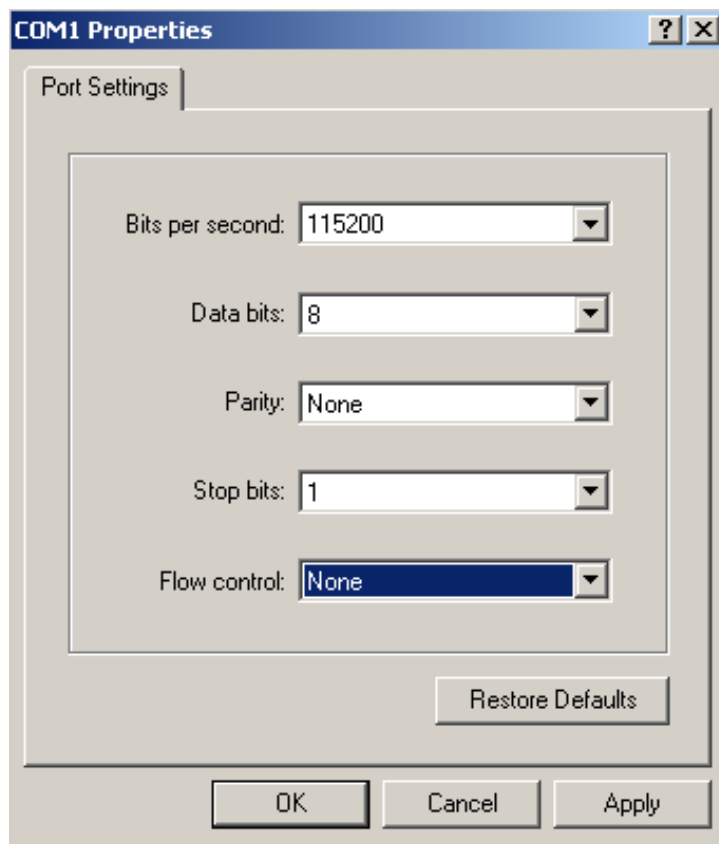

Figure G-10. COM properties
- c) After selecting the COM port, configure baud rate and other properties as shown in Figure G-10 (Baud rate: 115200, Data bits: 8, Parity: None, Stop bits: 1, Flow control: None).